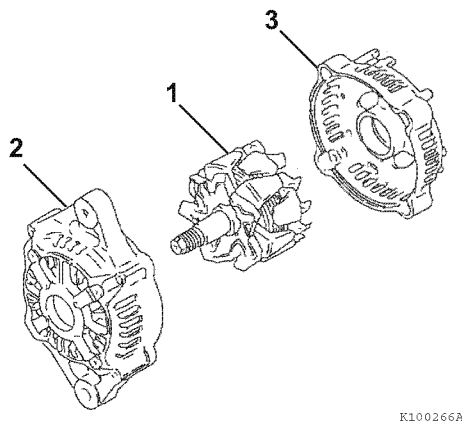

Figure 11-14
- Lubricate the shaft of the rotor assembly (**Figure 11-14, (1)**). Press the rotor assembly into the front frame housing (**Figure 11-14, (2)**) and rear frame housing (**Figure 11-14, (3)**).